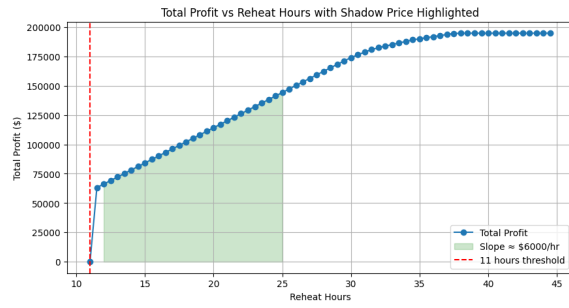
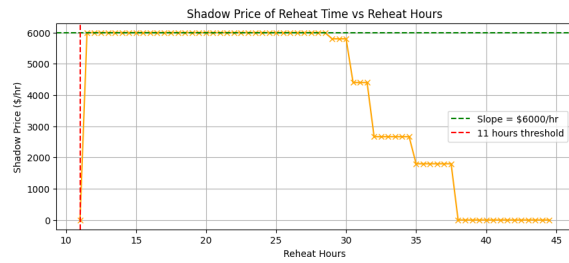

Figure 3: Shadow Price
Figure 4: Reheat Hours
- d As you can see below, when the reheat time drops to 11 hours, we are simply in a different region of our polyhedron and now at a different solution set. The slope of Figure 3 is also that of the shadow price shown in Figure 4, where the slope changes as the shadow price changes. This reminds me a lot of marginal cost and its implication on time, which corresponds to this shadow cost.